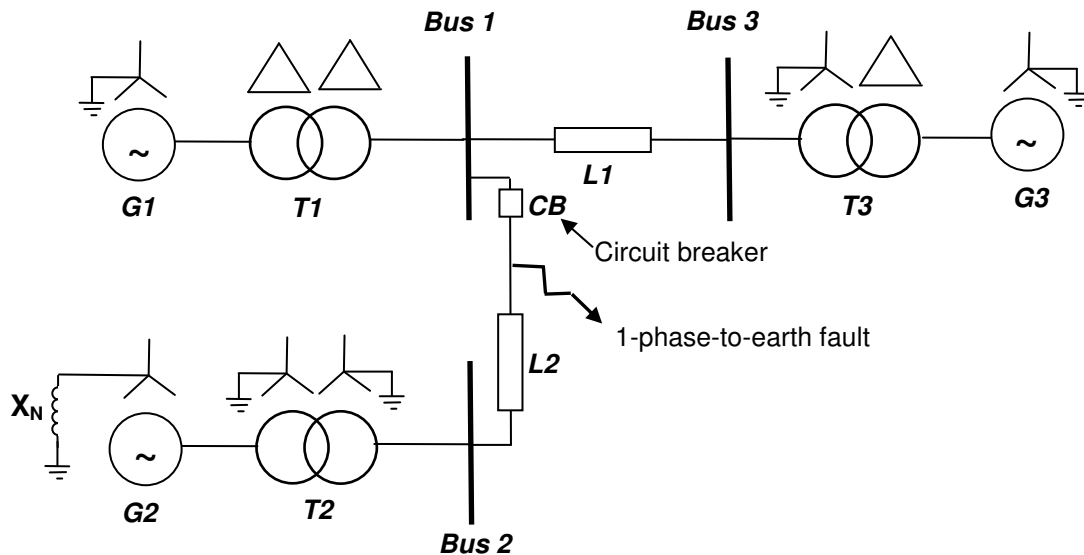

Figure B2.1 Line diagram of power system
Figure B2.1 shows the single-line diagram of a power system comprising three 132kV busbars, *Bus 1*, *Bus 2* and *Bus 3*, connected together by overhead transmission lines, *L1* and *L2*. Each busbar is supplied by a generator via a step-up transformer. Generator, *G2*, has its star point earthed through a reactor, X_N , of $j0.3\Omega$, all other star points in the system are solidly earthed. A single phase to earth fault occurs on one end of *L2*, as shown.
- Calculate all the per-unit reactances of the system using a reference base of 120MVA. (6)
- Draw the positive, negative and zero sequence diagrams for the system and determine Z_+ , Z_- and Z_0 . (7)
- Determine the total fault current when a single phase-to-earth fault occurs at one end of line, *L2*, as shown in Figure B2.1. (3)
- If each phase of circuit breaker *CB* is set to trip on an over-current of 2500A explain whether circuit breaker *A* is adequately rated for this type of fault. (4)